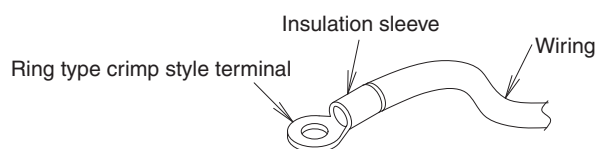

Fig. 36
- For connection to the terminal block, use ring type crimp style terminals with insulation sleeve or treat the wiring with insulation. (**Refer to Fig. 36**)